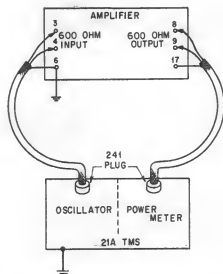

Fig. 1 - Gain and Gain-Frequency Testing Arrangement
2.11 Procedure: Energize the amplifier and the transmission measuring set and adjust the oscillator for an output of -40 dbm at 1000 cycles. Connect the oscillator to the 600-ohm input circuit (terminals 3 and 4) of the amplifier. (See Fig. 1.) Adjust the measuring set power meter for an input level of +20 dbm and